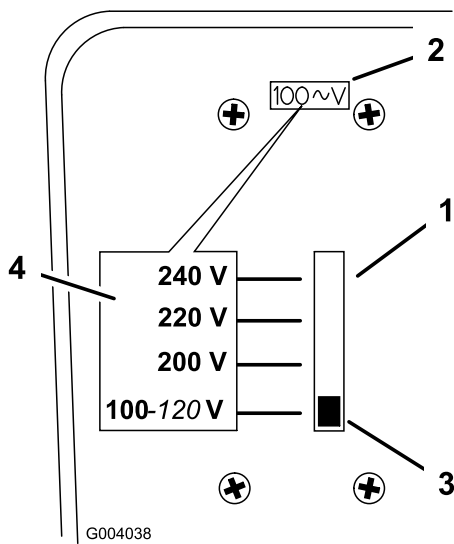

Figure 14
1. Locate the voltage selector on the rear of the charger (Figure 14).
2. Adjust the voltage setting by moving the switch on the voltage selector upward or downward to change the voltage setting (Figure 14).